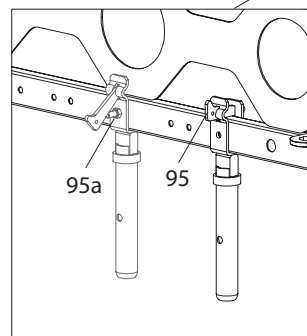

Fig. A13.01a
For reduced passage widths, attach and securely wedge (95) one or two UH Spigots-2 (95) to the underside of the Multi Girder ELM (110) or connect with bolts M10 x 70 and nuts (95a). (Fig. A13.01a)